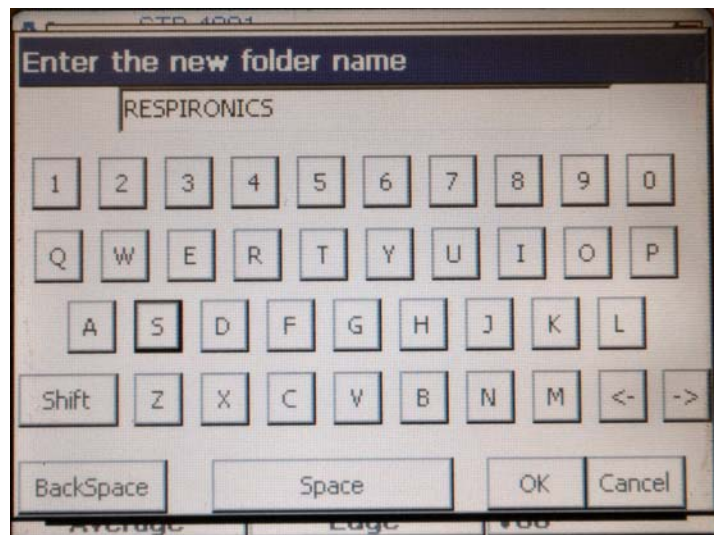

Figure 8-7: Entering a New Folder Name (Certifier FA Plus)
- Use the touch screen keyboard to enter **RESPIRONICS**, then touch **OK** (Figure 8-7).